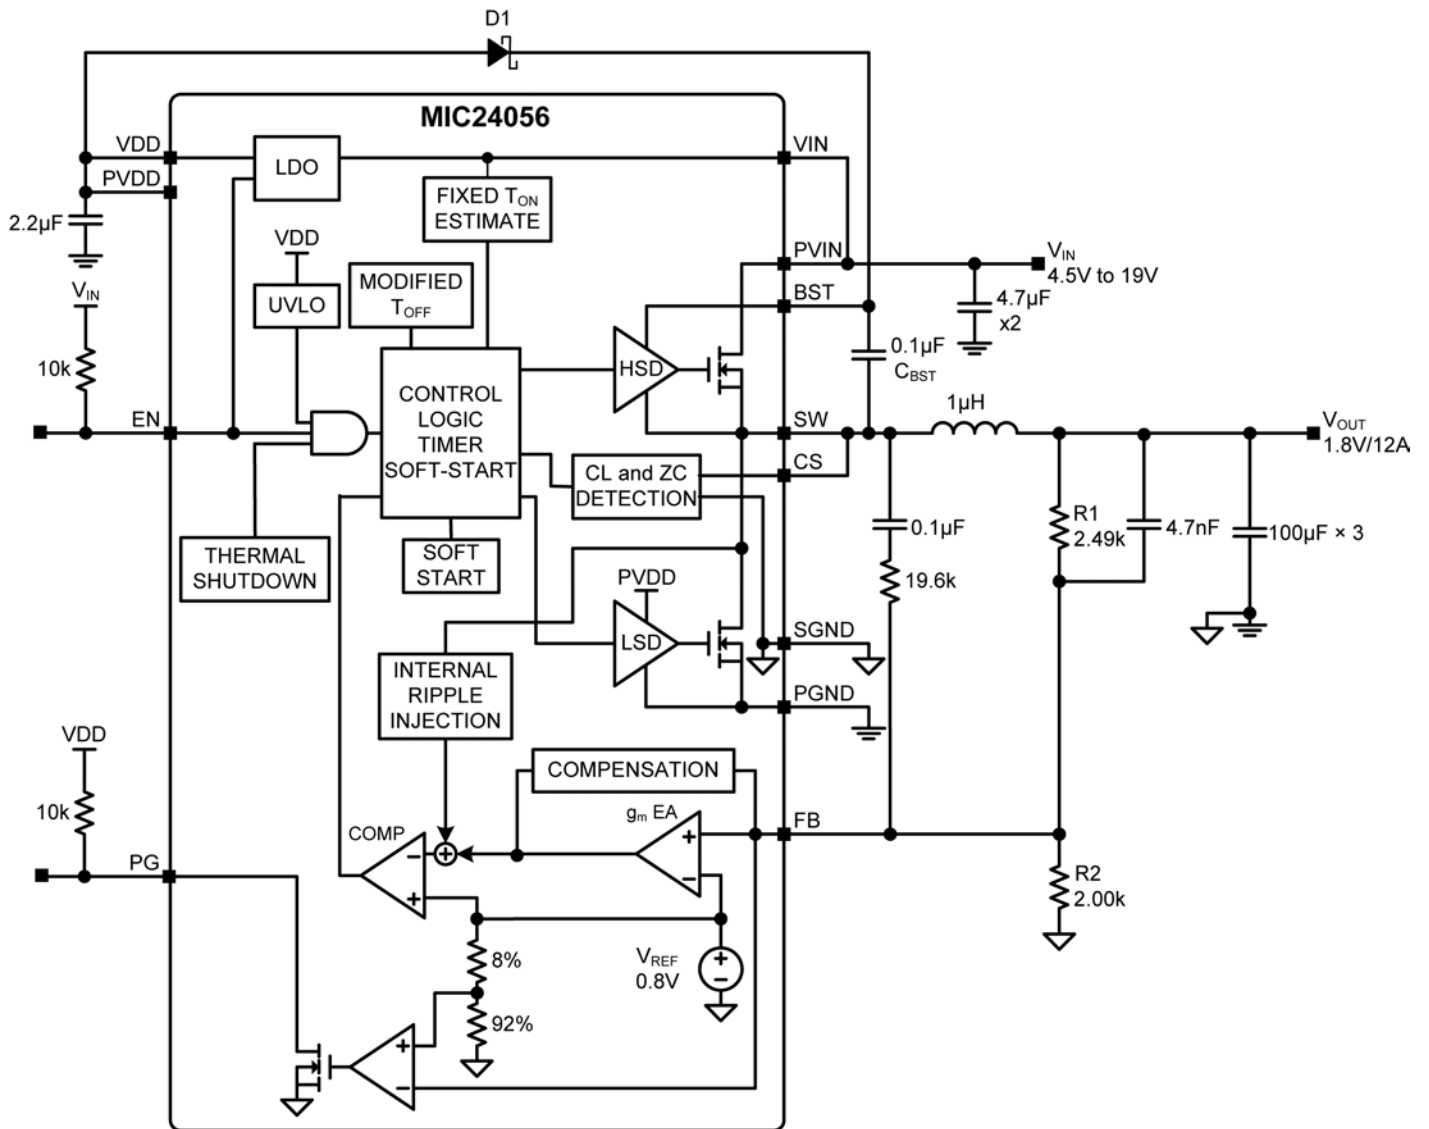

Figure 1. MIC24056 Block Diagram
The MIC24056 is able to operate in either continuous mode or discontinuous mode. The operating mode is determined by the output of the zero cross comparator (ZC) as shown in Figure 1.
The block diagram (Figure 1) shows a bootstrap circuit, consisting of D1 (a Schottky diode is recommended) and C_{BST} . This circuit supplies energy to the high-side drive circuit. Capacitor C_{BST} is charged, while the low-side MOSFET is on, and the voltage on the SW pin is approximately 0V. When the high-side MOSFET driver is turned on, energy from C_{BST} is used to turn the MOSFET on. As the high-side MOSFET turns on, the voltage on the SW pin increases to approximately V_{IN} . Diode D1 is reverse biased and C_{BST} floats high while continuing to keep the high-side MOSFET on. The bias current of the high-side driver is less than 10mA so a 0.1 μ F to 1 μ F is sufficient to hold the gate voltage with minimal droop for the power stroke (high-side switching) cycle, i.e. $\Delta BST = 10\text{mA} \times 1.67\mu\text{s}/0.1\mu\text{F} = 167\text{mV}$. When the low-side MOSFET is turned back on, C_{BST} is then recharged through D1. A small resistor R_G , which is in series with C_{BST} , can be used to slow down the turn-on time of the high-side N-channel MOSFET.